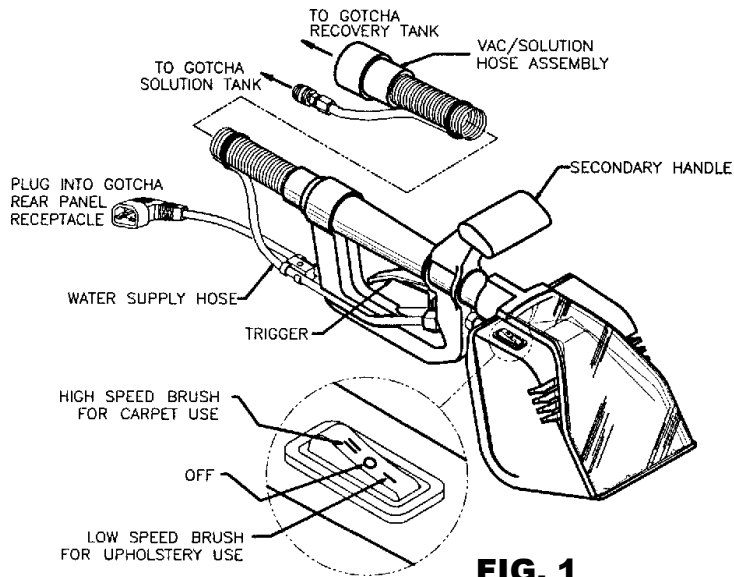
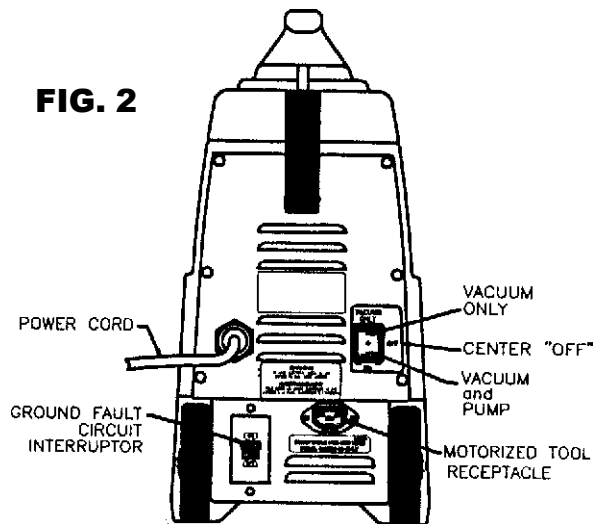
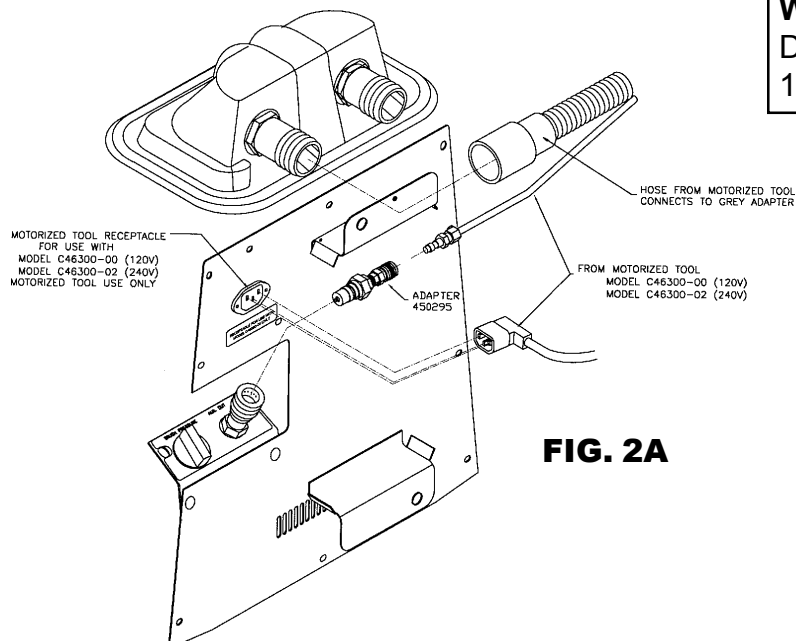

FIG. 1
FIG. 2
FIG. 2A
This appliance must be grounded. If it should malfunction or breakdown, grounding provides a path of least resistance for electric current to reduce the risk of electric shock. This appliance is equipped with a cord having an equipment-grounding conductor and grounding plug. This plug must be plugged into the Carpet Spotter Model C46200-00 or C46000-00 as shown on page 4 fig. 2. The power supply cord plug on Model C46200-00 and C46000-00 must be plugged into an appropriate outlet that is properly installed and grounded in accordance with all local codes and ordinances. See grounding instructions below for Model C46200-00 and C46000-00.
2. Connect the vac/solution hose assembly to the "Gotcha!" (see fig. 1) or the Ambassador (see fig. 2A).
3. Plug power cord into the receptacle located at the lower back portion of the machine. (see fig. 2 and fig. 2A).
4. For the brush and spray to operate, the switch on the "Gotcha!" (see fig. 2) must be on the double bar position (vac & pump) or the Ambassador "pump aux" switch must be on.
5. This tool is equipped with a 3-position power switch. The single bar position is for "low" speed. The center position is "off". Double bar position for "high" speed (see fig.1)